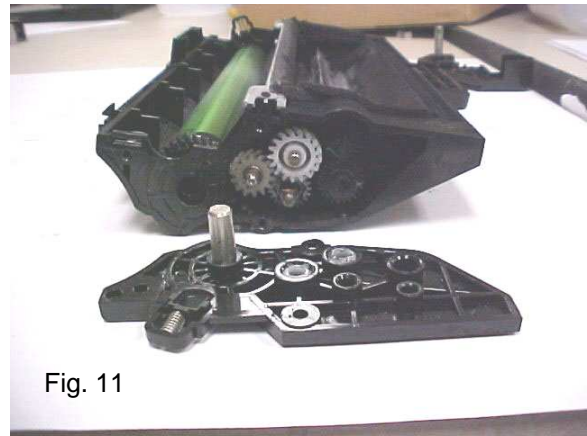

Fig. 11
11. Work the flat-head screwdriver around the end cap to pry it off. Notice gear configuration. Remove and clean gears with compressed air or vacuum if necessary. Lubricate with white lithium grease (Fig.11).